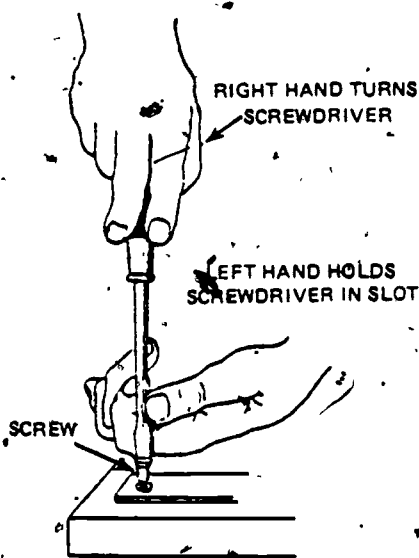

Figure 9. Safe use of a screwdriver.
4. Hold the handle firmly with the right hand, with the top of the handle against the palm, and thumb and finger against the metal band below the handle, as illustrated in Figure 9.